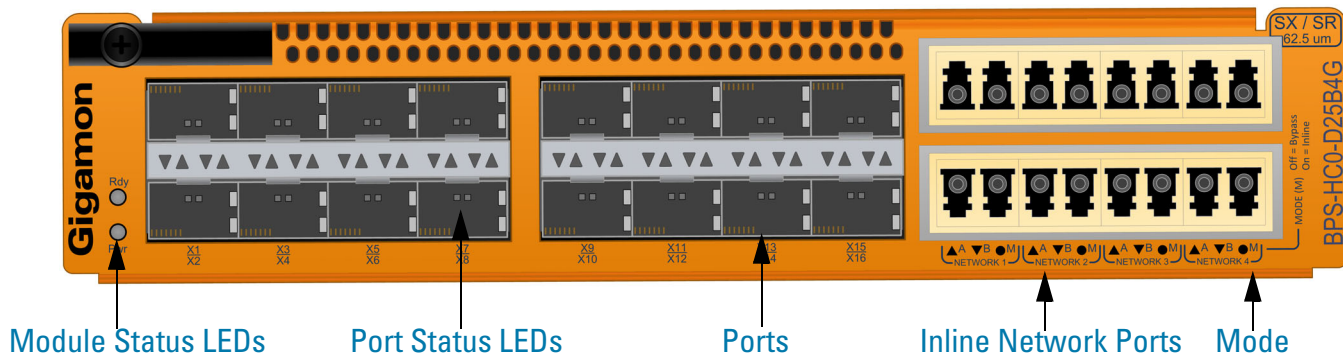

Figure 1-14: Bypass Combo Module BPS-HC0-D25B4G
- Bypass Combo Module with four SX/SR (62.5/125µm multimode) inline network port pairs and sixteen regular SFP+ port cages (BPS-HC0-D25B4G) (Figure 1-14 on page 28)